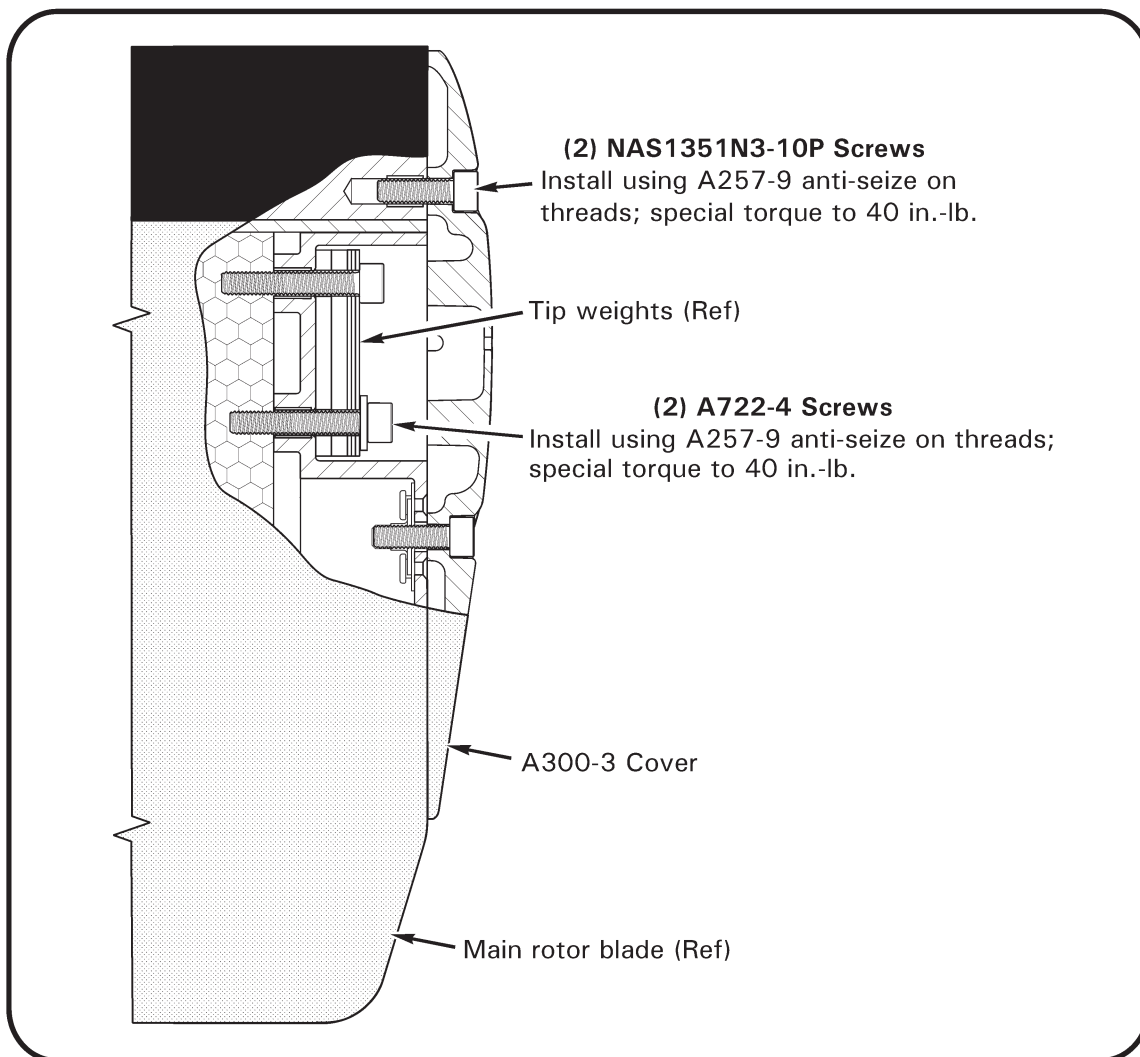

FIGURE 10-11 MAIN ROTOR BLADE TIP
1. Remove screws securing tip cover to blade. Balance rotor assembly spanwise by adjusting tip weights as required per Figure 10-10. Washers may be trimmed. Refer to Figure 10-11. Apply light coat A257-9 anti-seize to threads and install screws securing tip weights to blade; special torque screws to 40 in.-lb. Apply light coat A257-9 anti-seize to threads and install screws securing tip cover to blade; special torque screws to 40 in.-lb.